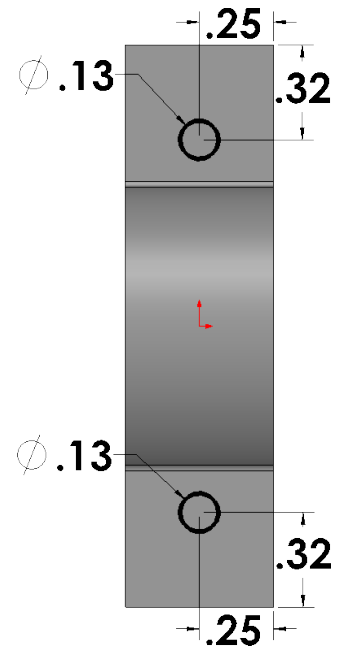

Fig. 11
Step 6. Add dimensions as shown in **Fig. 11**. To Smart dimension circle distance from Origin, click circle and click Origin, then move cursor out away and click to place dimension. Key-in the dimension and press ENTER. Arrange the dimensions as shown in **Fig. 11**.